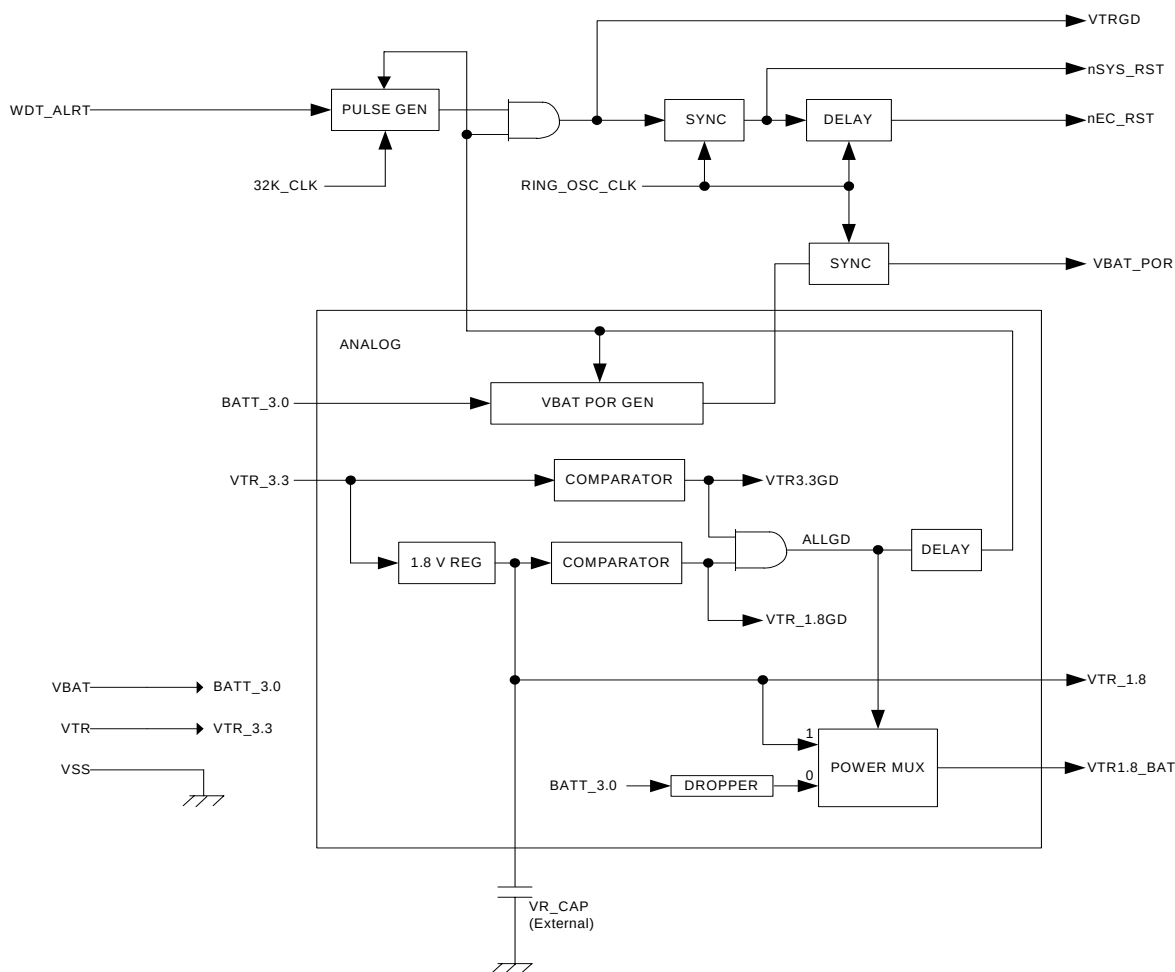
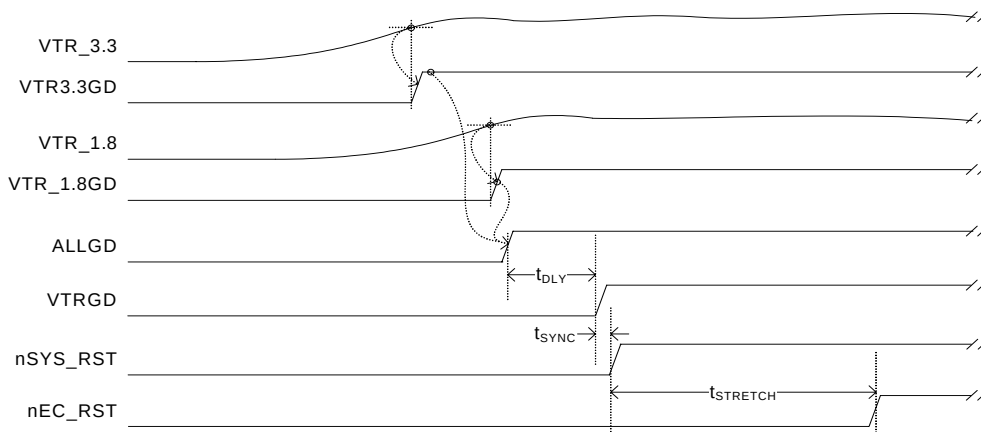
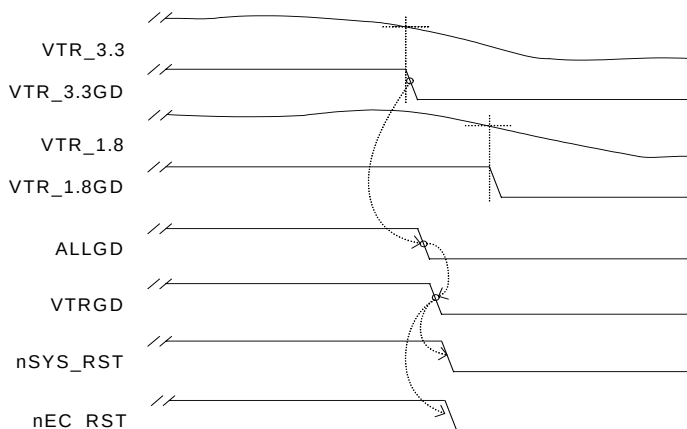
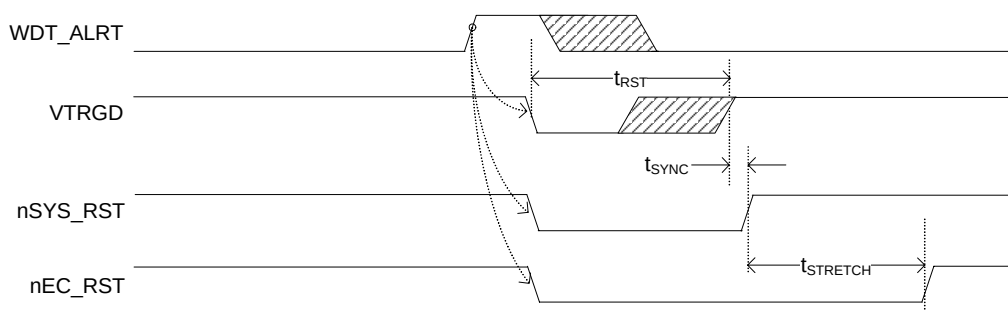

Figure 4.28 Reset Interface Block Diagram
**Figure 4.29 VTR Power-Up Timing**
**Figure 4.31 VTR Power-Down Timing**
**Figure 4.36 Watch-Dog Timer Forced Reset Timing**
The primary function of the Reset Interface (Figure 4.28) is to generate VTR and VBAT reset signaling; including, VTRGD, VBAT\\_POR, nSYS\\_RST, nEC\\_RST and Watch-Dog Timer Forced Reset. The Reset Interface also includes a section regarding the 1.8V Regulator. There is other VCC-related Reset Interface functionality not shown in Figure 4.28 that is described Section 4.6.8, "VCC Power Good," on page 102 and Section 4.6.9, "LPC RESET," on page 102.
Also included in the Reset Interface are descriptions of the Power Mux and Strapping Options. These are related Power, Clocks and Resets functions that are illustrated in Figure 4.28, but are not described anywhere else in this chapter.
VTRGD (Figure 4.28) is the reset signal for the 64.52 MHz Ring Oscillator and the source for nSYS\\_RST and nEC\\_RST.
As shown in Figure 4.28, Figure 4.29 and in Table 4.17, VTRGD is asserted following a delay after the VTR and VTR\\_1.8 power supplies exceed preset voltage thresholds. VTRGD is de-asserted as soon
as either the **VTR** or **VTR\_1.8** power supplies drop below these thresholds (see Figure 4.31 VTR Power-Down Timing on page 100).
**VBAT\_POR** is a pulse that is asserted at the rising edge of **VTRGD** (Figure 4.29) if the coin cell is replaced, or the **VBAT** voltage falls below 1.25 V nominal while **VTRGD** is not asserted ('0'). Note
nSYS\\_RST is VTRGD synchronized to the 64.52 MHz Ring Oscillator (Figure 4.29). Note that VTRGD and nSYS\\_RST have the same logical sense (uninverted); however, because of nomenclature, the asserted states are opposite. Note that VTRGD is defined in Section 4.6.2, "VTRGD," on page 99.
nSYS\\_RST is de-asserted as defined in Figure 4.29, "VTR Power-Up Timing" and in Table 4.17. nSYS\\_RST can also be asserted as a result of a Watch-Dog Timer Forced Reset as described in Section 4.6.10, "Watch-Dog Timer Forced Reset," on page 103. nSYS\\_RST is asserted as soon as either the VTR or VTR\\_1.8 power supplies drop below preset voltage thresholds (see Figure 4.31 VTR Power-Down Timing on page 100).
nEC\\_RST is de-asserted as defined in Figure 4.29, "VTR Power-Up Timing" and in Table 4.17. nEC\\_RST can also be asserted as a result of a Watch-Dog Timer Forced Reset as described in Section 4.6.10, "Watch-Dog Timer Forced Reset," on page 103. Like nSYS\\_RST, nEC\\_RST is asserted as soon as either the VTR or VTR\\_1.8 power supplies drop below preset voltage thresholds (see Figure 4.31 VTR Power-Down Timing on page 100).
The 1.8V Regulator generates the MEC5035 core power well. As illustrated in Figure 4.28, the input to the 1.8V Regulator is VTR, the output is VTR\\_1.8 (see also Table 4.1). The 1.8V Regulator is not used when VTR is inactive, as described in Section 4.6.7, "Power Mux" below.
Power Mux switching depends on the voltage level of the 1.8V Regulator and the VTR supply. As illustrated in Figure 4.28, the Power Mux selects the 1.8V Regulator after the VTR and the VTR\\_1.8 power supplies exceed preset voltage thresholds. The Power Mux selects the VBAT supply as soon as either the VTR or VTR\\_1.8 power supplies drop below these thresholds (see Figure 4.31 VTR Power-Down Timing on page 100).
A Watch-Dog Timer Forced Reset (Figure 4.36) occurs when the WDT\\_ALRT input (Table 4.1) is asserted ('1'). As shown in Figure 4.36, VTRGD is de-asserted ('0') and nSYS\\_RST and nEC\\_RST are asserted ('0') when WDT\\_ALRT is asserted. The VTRGD reset time ( $t_{RST}$ ) is determined by the 32.768 KHz Crystal Oscillator as shown in Table 4.21. Following the VTRGD reset time, the nSYS\\_RST Delay Time ( $t_{SYNC}$ ) and the nEC\\_RST Delay Time ( $t_{STRETCH}$ ) are determined using the 64.52 MHz Ring Oscillator as described in Figure 4.29 and Table 4.17.
Note that analog reset signal functions are not shown in Figure 4.36 because it is assumed that the power supplies are fully powered and stable during a Watch-Dog Timer Forced Reset.